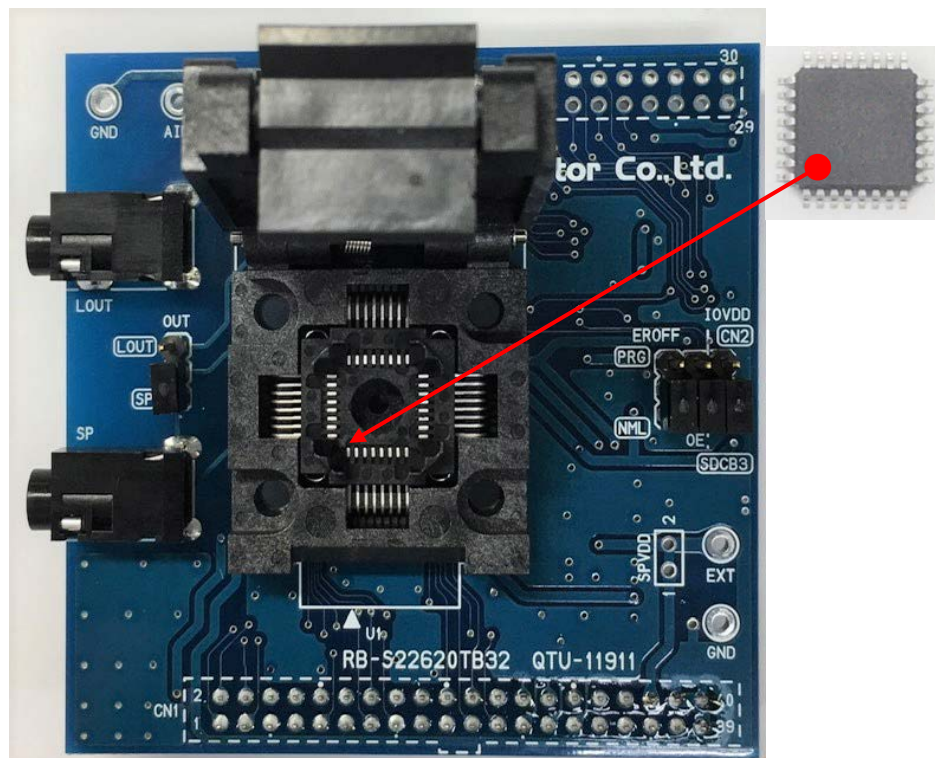

Figure 1 Outline Diagram
- Turn off the power when loading Speech Synthesis LSIs into the RB-S22620TB32. Pin 1 is the position of the board silk ▲ at the bottom left with respect to the socket opening. The Figure 1 shows the setting directions of Speech Synthesis LSIs.